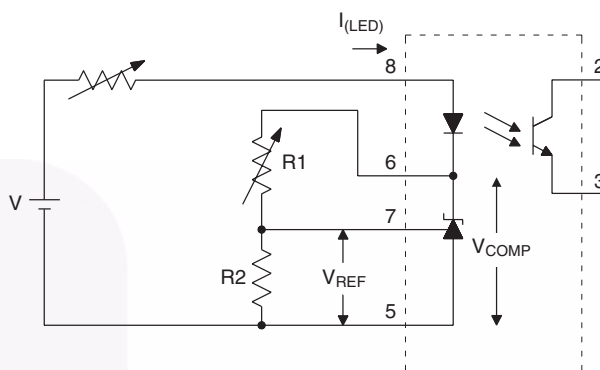

Figure 2.  $\Delta V_{REF} / \Delta V_{COMP}$  Test Circuit
5. The dynamic impedance is defined as  $|Z_{OUT}| = \Delta V_{COMP} / \Delta I_{LED}$ . When the device is operating with two external resistors (see Figure 2), the total dynamic impedance of the circuit is given by: